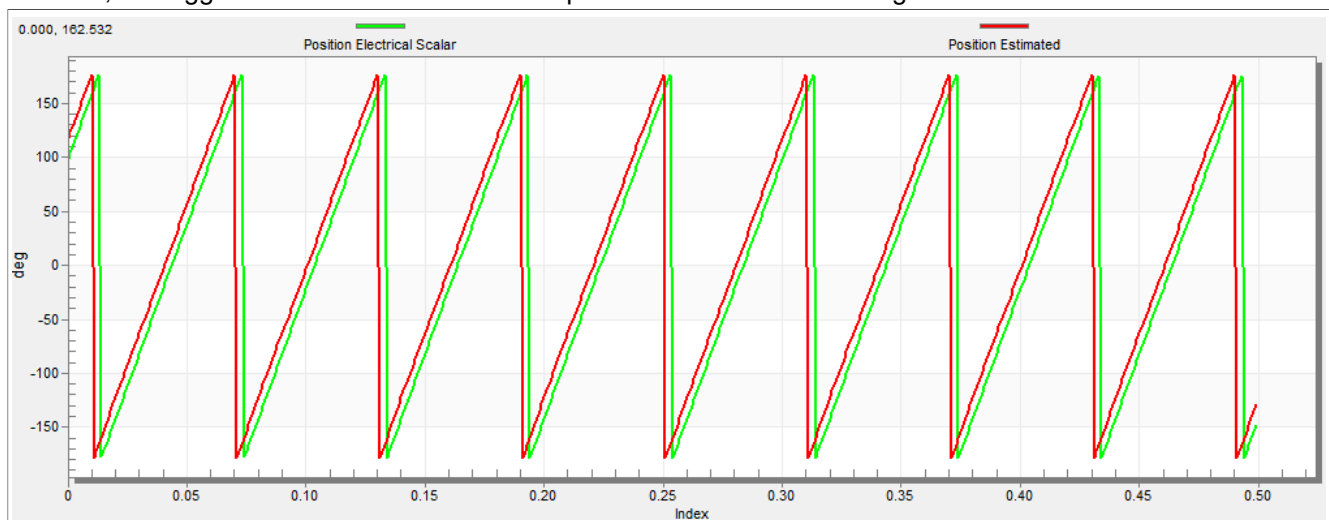

Figure 28. Generated and estimated positions
6. Select the "Position" recorder to check the observer functionality. The difference between the "Position Electrical Scalar" and the "Position Estimated" should be minimal (see Figure 28) for the Back-EMF position and speed observer to work properly. The position difference depends on the motor load. The higher the load, the bigger the difference between the positions due to the load angle.